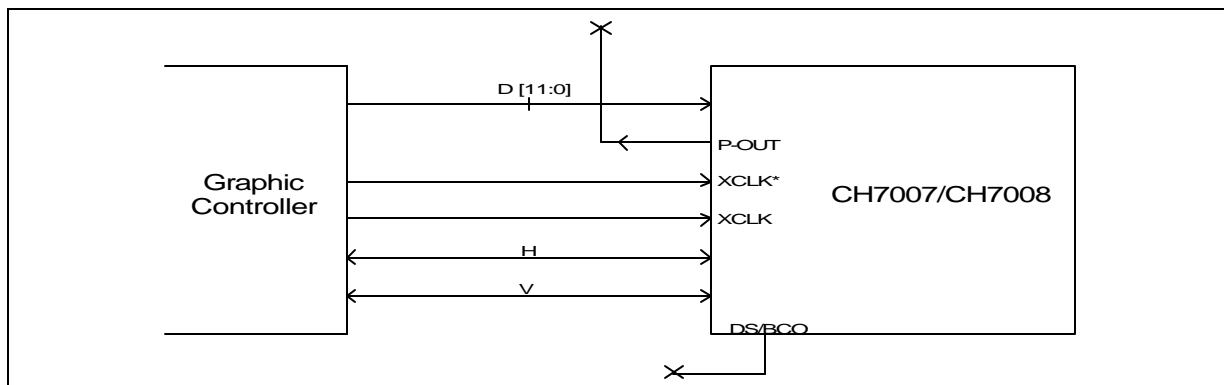

Figure 6 : Slave Clock Mode
• **Slave Clock Mode (Figure 6)**